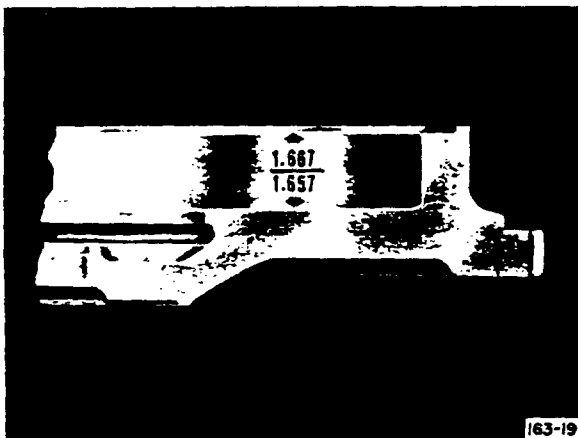

Figure 5-23. Flywheel Rubbing Surface-to-Clutch Cover Bolting Surface Dimension
8. If flywheel is warped or heat checked and surface is refinished, maintain dimensions shown in Figure 5-23 between disc surface and bolting face for proper release lever adjustment. No more than .070 inch maximum may be removed by grinding.